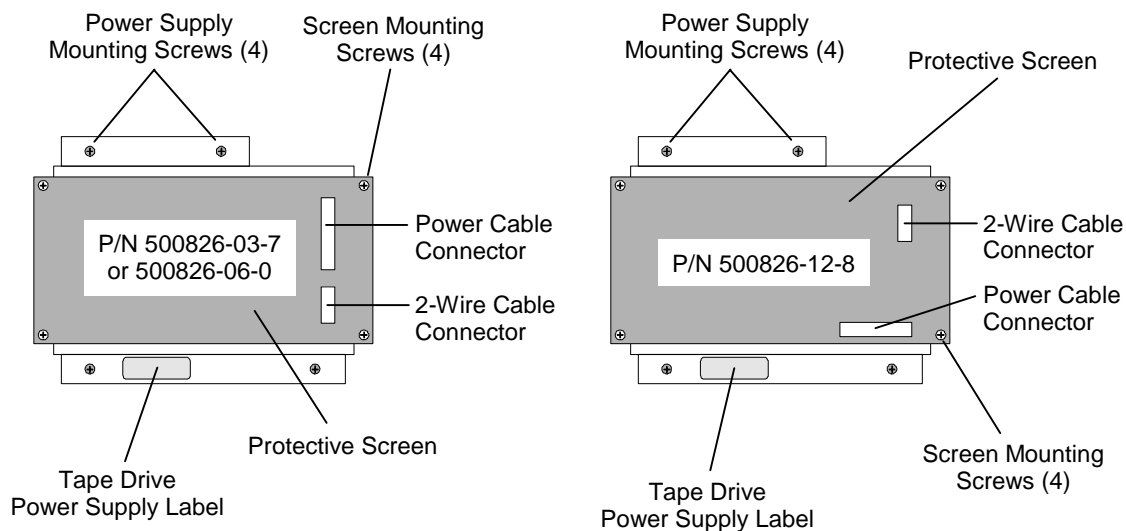

Figure 7-32 Detail of Tape Drive Power Supplies (Right side Power Supplies Shown)
To determine which model of Tape Drive power supplies are installed in the library, remove the top panel and the right or left side panel then read the Tape Drive Power Supply Label located on the power supply being replaced. See Figure 7-32. The label will read 500826-xx-x. Make sure that the replacement power supply has the same part number (or its equivalent) as the one that is to be removed.
4. Remove all four protective Screen mounting screws (Figure 7-32).
5. Disconnect the Power Cable and the 2-Wire Cable connectors from the Power Supply PCBA (Figure 7-32).
6. Remove all four Power Supply mounting screws (Figure 7-32).
2. Install all four Power Supply mounting screws (Figure 7-32).
3. Reconnect the Power Cable and the 2-Wire Cable connectors to the Power Supply PCBA (Figure 7-32).
4. Place the protective Screen on top of the Power Supply and install all four Screen mounting screws (Figure 7-32).